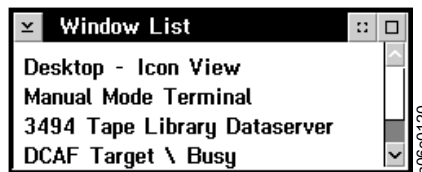

Figure 188. Window List
2. On the Window List (Figure 188), select the **DCAF Target \ Busy** option with the pointing device.